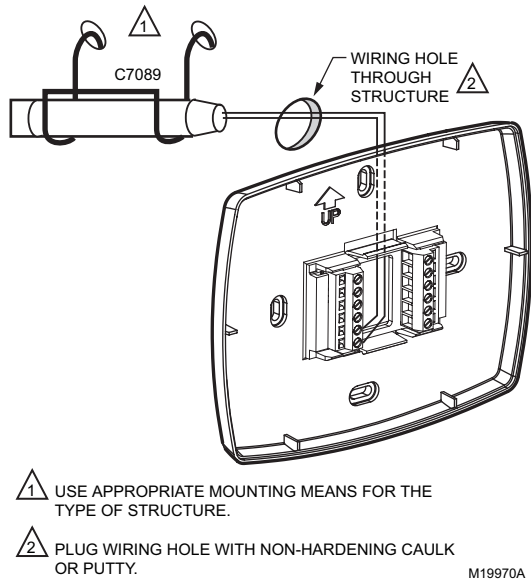

Fig. 26. Wire C7089U Outdoor Sensor to the thermostat.
- a. Using color-coded, 18-gauge thermostat wire is recommended. For example of general wiring of C7089U, see Fig. 26.